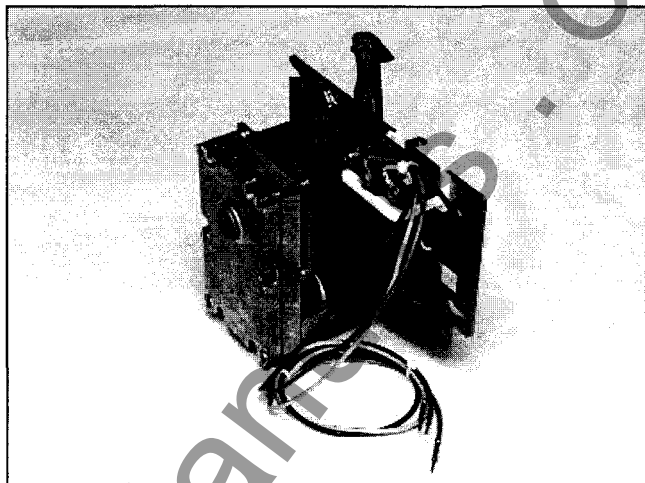

Figure 3-42 Motor Operator Kit
**Motor Operator** - A Motor operator is an electric motor assembly internally mounted in the circuit breaker (Figures 3-42 and 3-43). It charges the closing springs electrically for remote or local operation. The motor operator can be factory or site installed (Table 3.7).